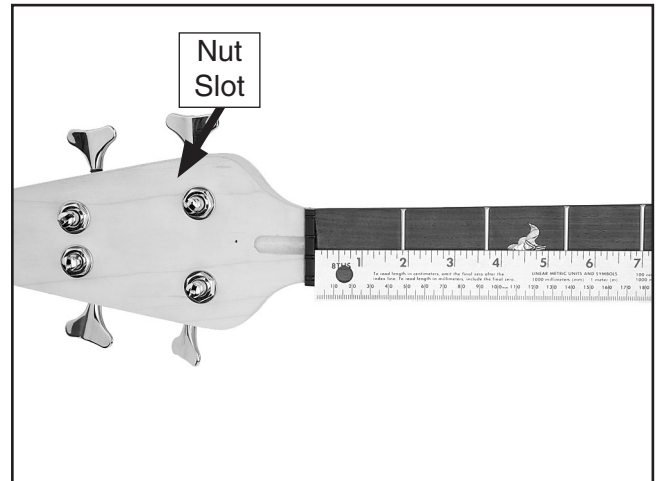
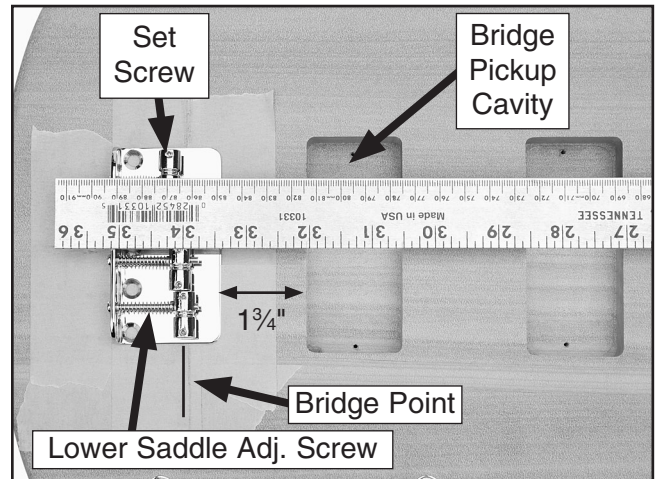

Figure 14. Example of measuring 34" from nut along center line.
Figure 15. Bridge point, and lower G string saddle adjustment screw.
2. Using the straightedge, measure 34" from the fretboard side of the nut slot (**Figure 14**) along the center line to the bridge point (**Figure 15**), and mark this location on the guitar.
3. Place the bridge on the body so it is approximately $1\frac{3}{4}$ " from the bridge pickup cavity and align it with the center line, as shown in **Figure 15**.
4. Using a Phillips head screwdriver, turn the G string saddle adjustment screw so the set screws shown in **Figure 15** are centered over the bridge point.
5. Using a Phillips head screwdriver, turn the lower saddle adjustment screw so the set screws shown in **Figure 15** are centered over the bridge point.